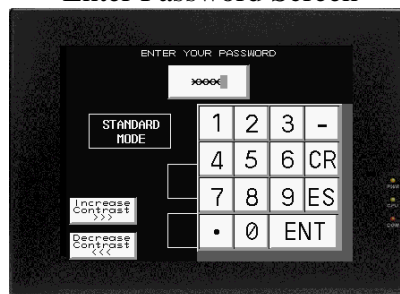

Fig 4
- 3 Enter Password "12345" (fig 4)
- 4 Press "ENT" to Enter (fig 4)